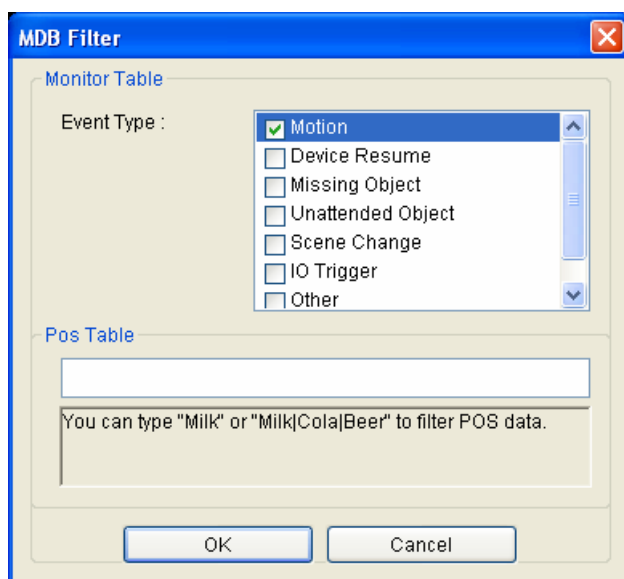

Figure 4-14
1. In the Export with New Privacy Mask Region(s) section (Figure 4-14), select **Un-recoverable** and/or **Recoverable**.